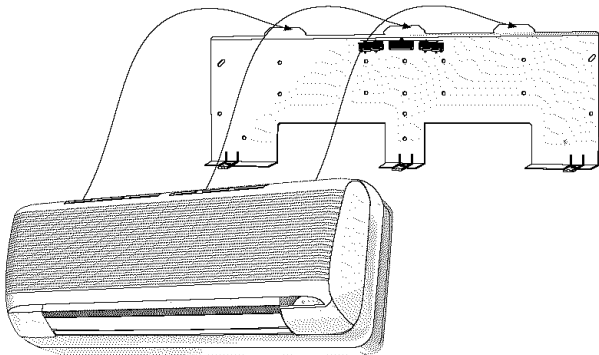

Fig. 8 — Indoor Unit Mounting
4. Mount the indoor unit on the mounting bracket (see Fig. 8) to make the remainder of the connections easier.